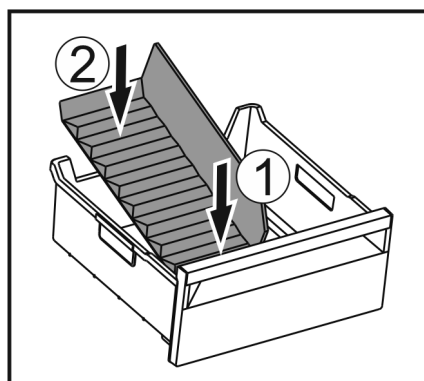

Fig. 232
- Insert the front part of the ice compartment divider. Fig. 232 (1)
- Lower the rear part of the ice compartment divider to the drawer bottom. Fig. 232 (2)